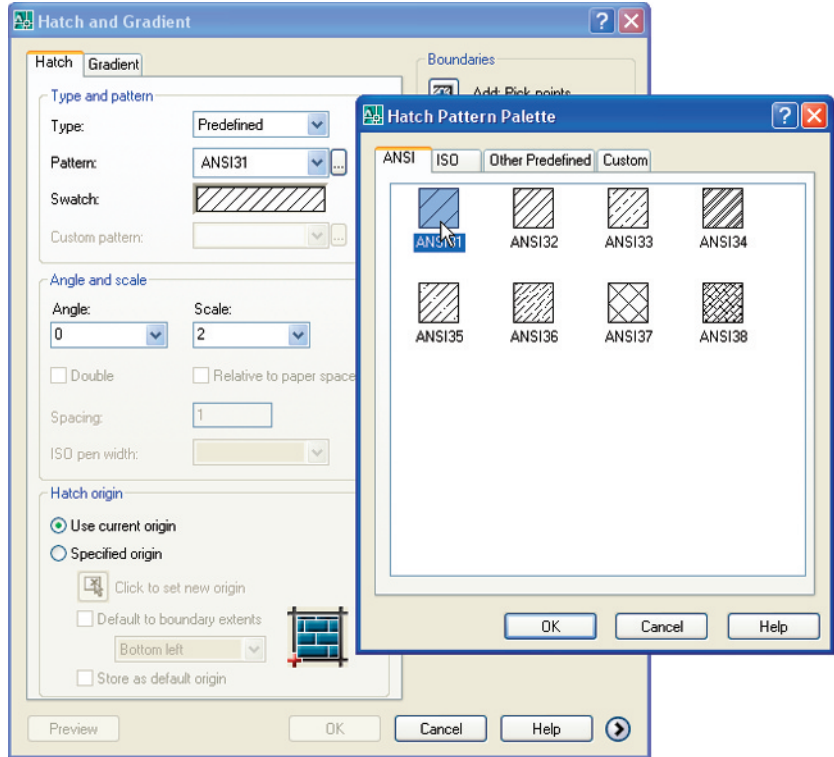

Fig. 7.12 The **Hatch and Gradient** dialog and the **ANSI Hatch Pattern Palette**
1. Call the **Hatch** tool – either *left-click* on its tool icon in the **2D Draw control panel** (Fig. 7.11), or *click* the tool in the **Draw** toolbar, or *enter h* at the command line. *Note* – do not *enter hatch* as this gives a different result. The **Hatch and Gradient** dialog (Fig. 7.12) appears.